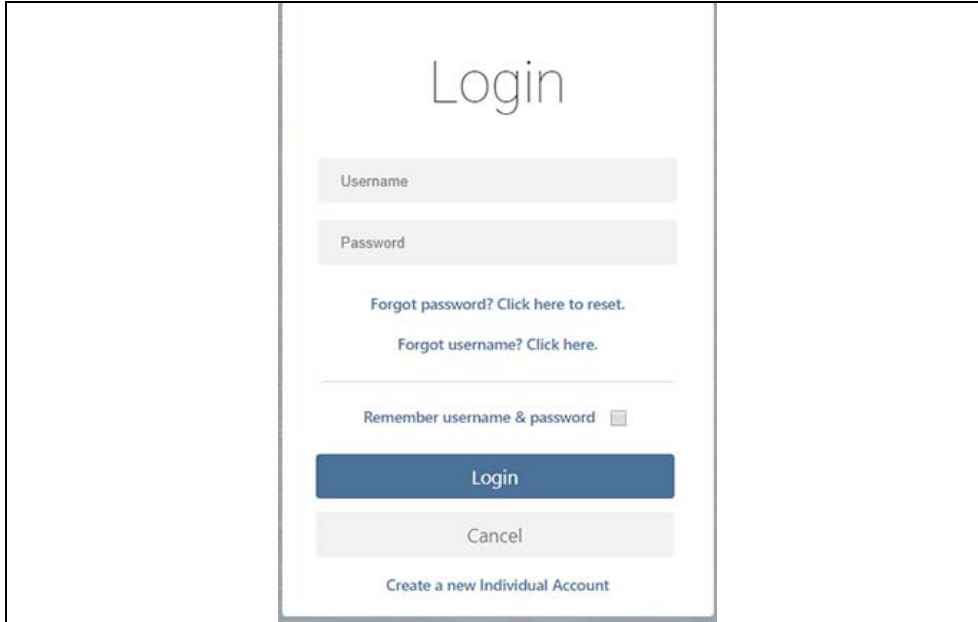

Figure 16-5
3. Log in using your **Username** and **Password** (Figure 16-5).